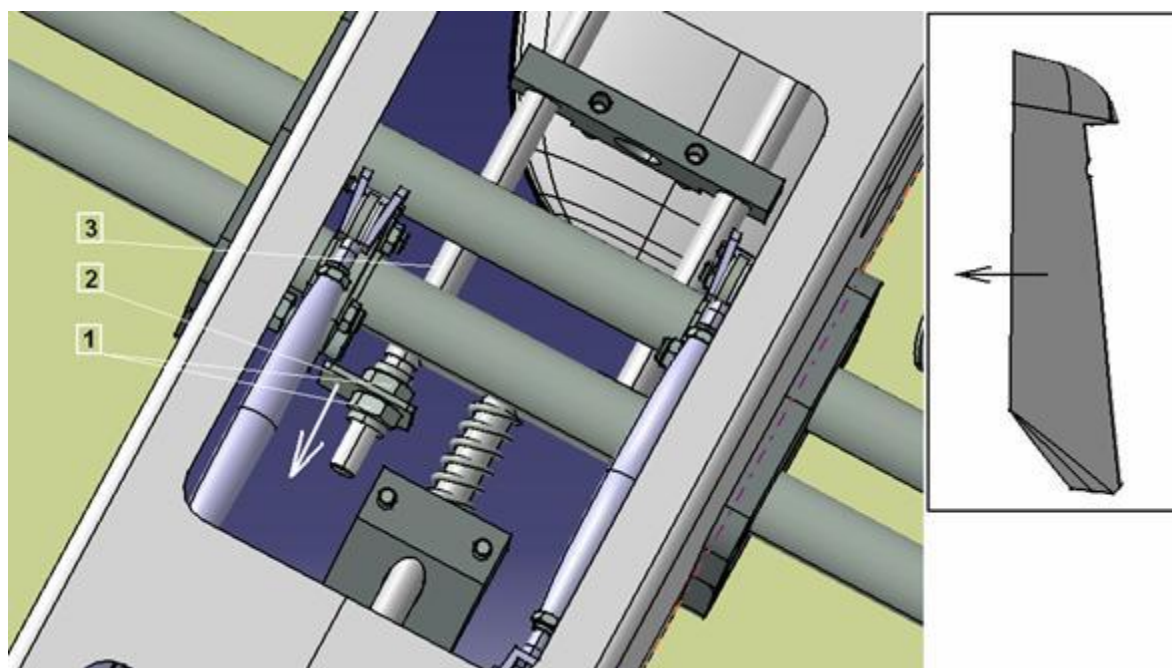

Fig. 6
- 2) To move rudder neutral position to the left, loosen by two 10x13 wrenches the nuts DIN 985 M8 (1) which tighten the stop plate KA6050206 (2) on the returning mechanism KA6050200 (3) (Fig.6).
- 3) Move the stop plate KA6050206 (2) towards the engine 0.4-0.8 inch / 1-2 mm and tighten it again by the nuts M8 (1) (Fig. 6), using a two 10x13 wrenches.